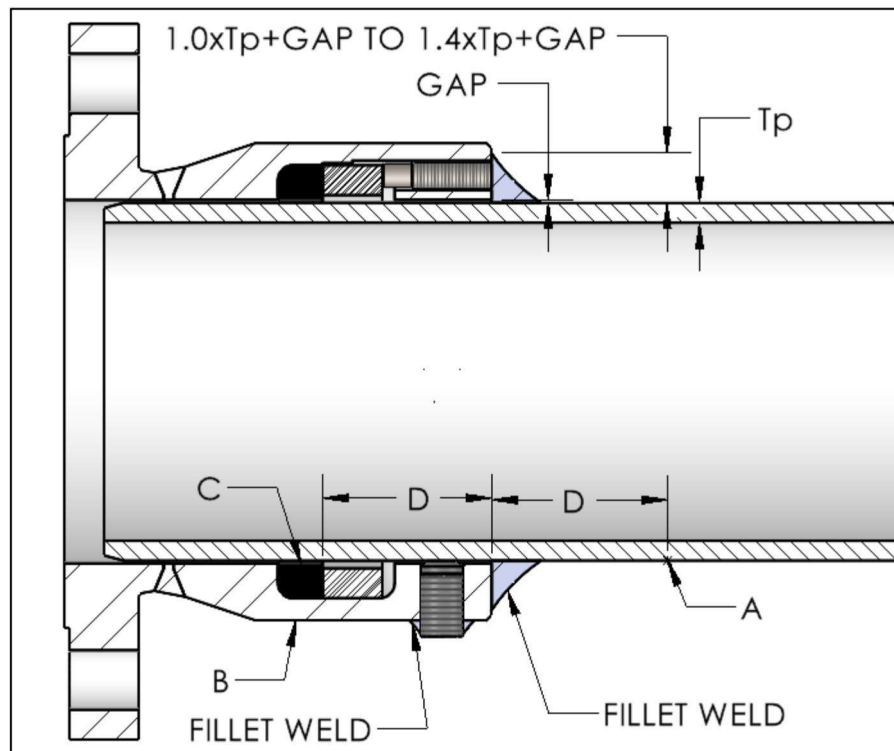

Figure 7
Dimension "D", as measured during the initial installation, should be used to mark off locations "A" and "B", as shown in Figure 7. These locations are the same distance from the weld as the seal location "C". To prevent damage to the seals, monitor the heat generated by welding or preheating, particularly at location "A" and "B", by using temperature crayons or probe thermometers. If the heat generated approaches the temperature limit of the seal material as indicated on the product label, welding should be discontinued or sequenced to another part of the fitting so that the affected area has a chance to cool.
2. Add a fillet weld to the end of the PLIDCO Flange around the circumference of the pipe and seal weld the ends of the cut off thrust screws. The fillet weld height should be between $(1 \times T_p) + \text{gap}$ and $(1.4 \times T_p) + \text{gap}$ where " T_p " is the thickness of the pipe and "gap" is the root opening or distance from the OD of the pipe to the ID of the Weld+Ends (See Figure 7)